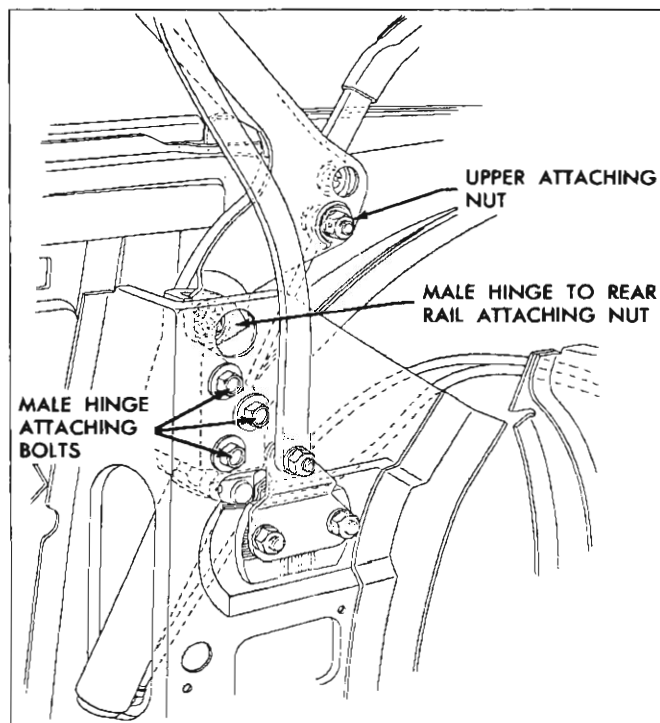

Fig. 130—Lift Cylinder Removal
6. Remove attaching nut, bolt, bushing and washer from upper end of cylinder. (Fig. 130).
7. Remove side roof rail to male hinge attaching nut and bolt. (Fig. 130)
8. Mark location of male hinge attaching bolt washers on folding top compartment brace; then remove folding top male hinge attaching bolts (Fig. 130).
14. Install male hinge to top compartment brace using previously removed attaching bolts (fig. 130).